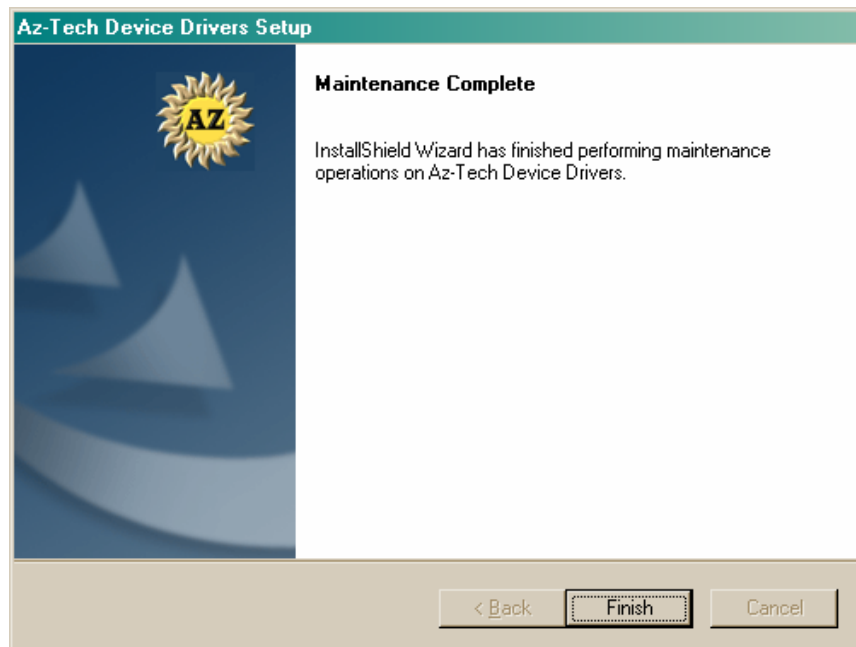

**Figure 8**
5. The **Ready to Install the Program** window will now appear as in Figure 8. This window informs the user that the installation is ready to begin and instructs the user to select the Install pushbutton to begin the software installation process. At this time select the **Install** pushbutton with the PC's pointing device.